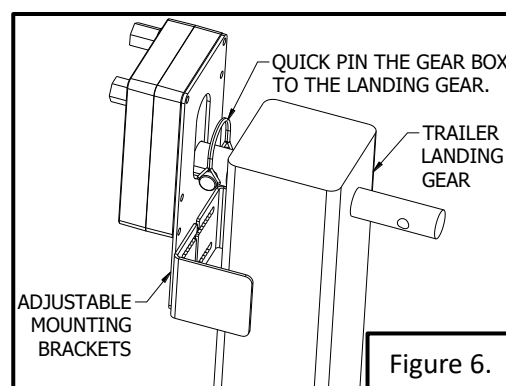

Figure 6.
2. Slide the Michel's EZ-Lift onto the input shaft of the landing gear and secure with the supplied quick pin. Refer to Figure 6. **Note:** The EZ-Lift can easily be removed by removing the quick pin and can be used on other trailers. If the EZ-Lift is to remain attached to the landing gear, Michel's recommends using a bolt to secure it to the output shaft. **Please Note:** On some trailers, the EZ-Lift can make the trailer over the Legal Width and **MUST** be removed after use.